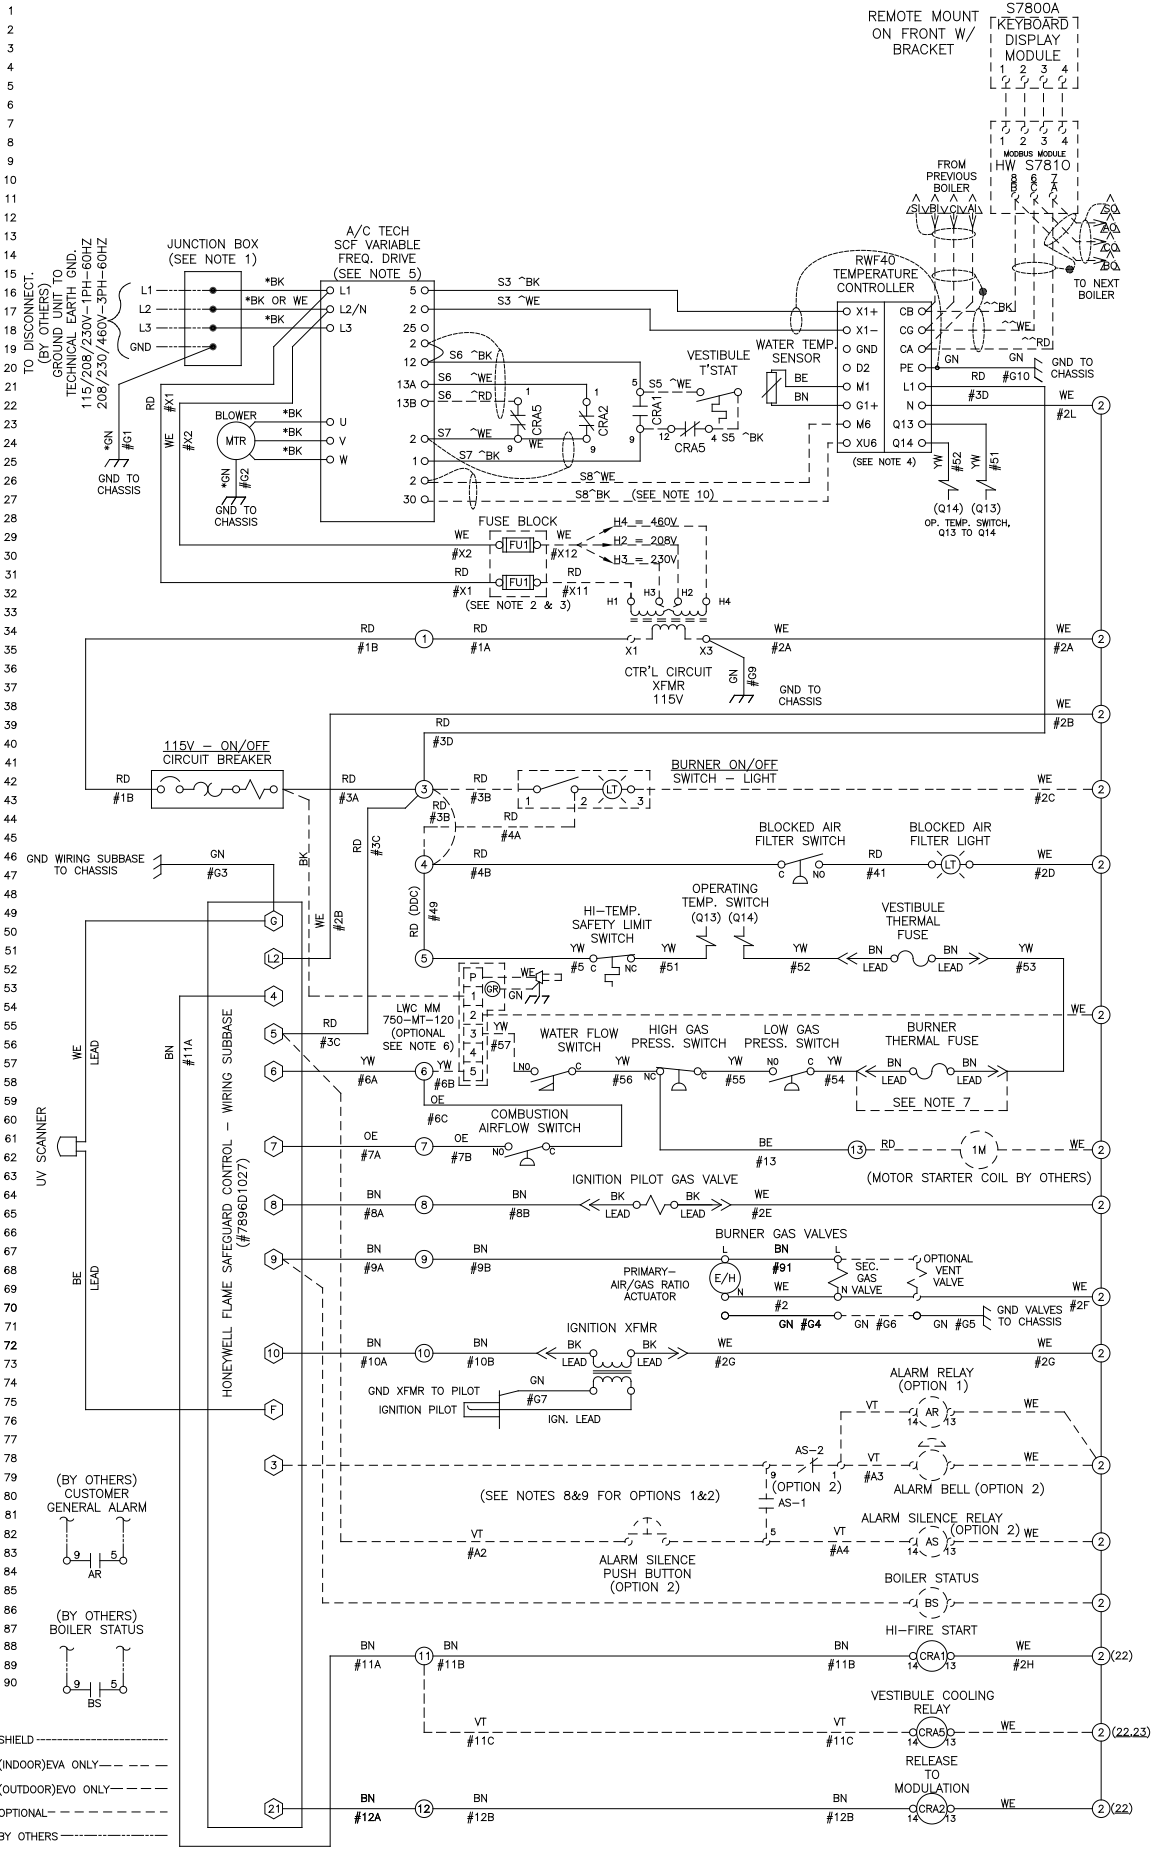

Figure 10: Standard UL/FM/CSD-1 Wiring Diagram (Modulation)
- G. Turn on electrical supply to the water heater and circulation system at fused disconnect switches. Note that there is electrical power at certain components even with the power switch off. See wiring diagram Figure 10.